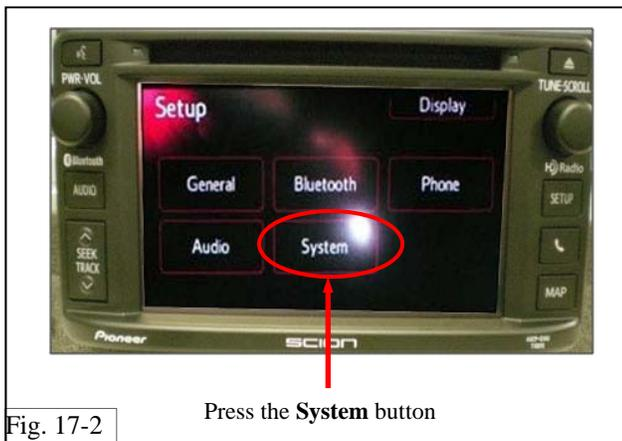

Fig. 17-2
- (b) Press the system button (Fig. 17-2)